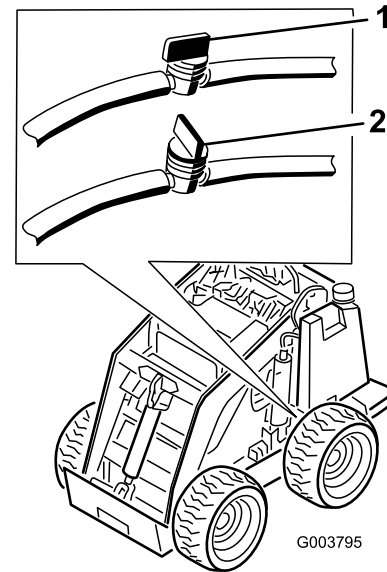

Figure 34
3. Shut off the fuel valve on the bottom of the fuel tank (Figure 34).
10. Open the fuel valve on the bottom of the fuel tank (Figure 34).
3. Shut off the fuel valve in the hose near the bottom of the fuel tank (Figure 34).
11. Open the fuel valve in the hose near the bottom of the fuel tank as illustrated in Figure 34.